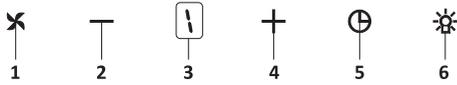

Fig. 1: 5 Spd Dgt Switch
1. Press this button to turn on the product. Fig. 1
2. Press this button to reduce speed. Fig. 1
3. Dgt Display: You can see the operation rate of product on this screen. Fig. 1
4. Press this button to increase speed. Fig. 1
5. When the timer button is pushed on, a timing function shall be activated for a period of 15 minutes, and once the timing starts, the display gives a signal, and the motor stops automatically after 15 minutes. (Fig. 1)
6. Press this button to turn on or off the lamp. (Fig. 1)